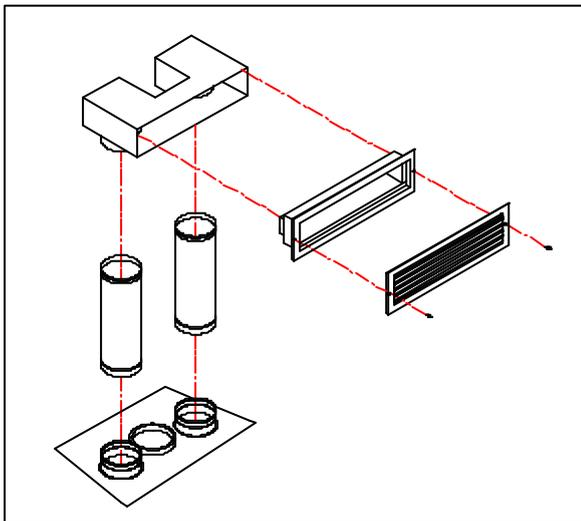

figure 16
1. Single hot air outlet including: (see Fig.16)
| Maximum length | See figures 16 & 17 |
1. Remove the plates closing up the 8" dia. holes on top of the fireplace. Then, cut the insulation in order to obtain two 8" dia. openings. Fix the adaptors on the fireplace openings by turning clockwise (figures 16 and 17).